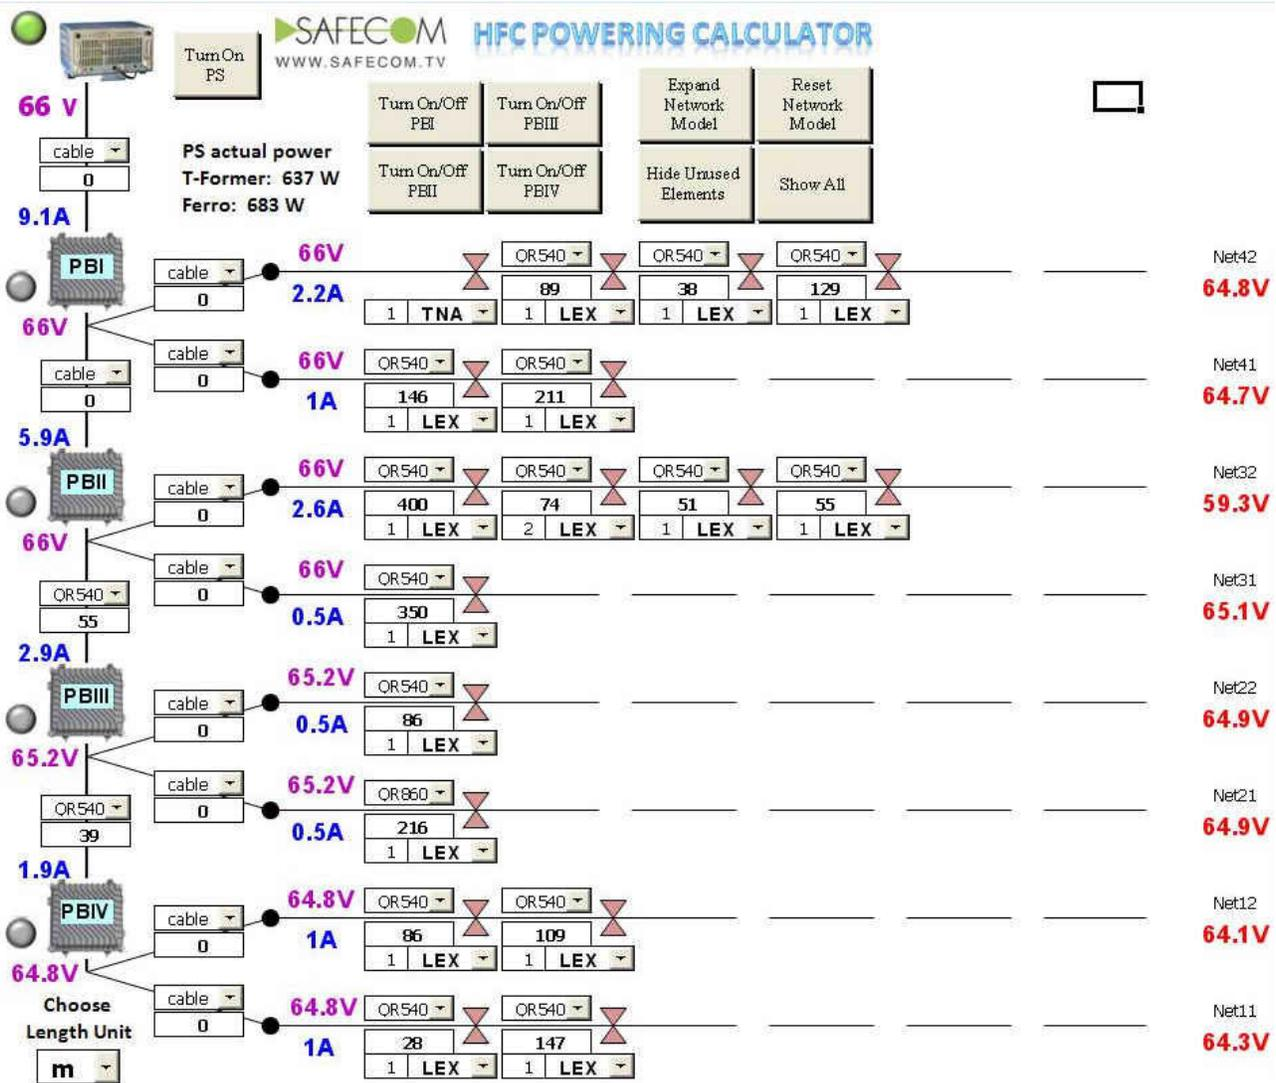

Fig.16 Network view after pressing "Hide unused elements" button
6. We are done with entering data. Press Hide Unused Elements button. See Fig.16